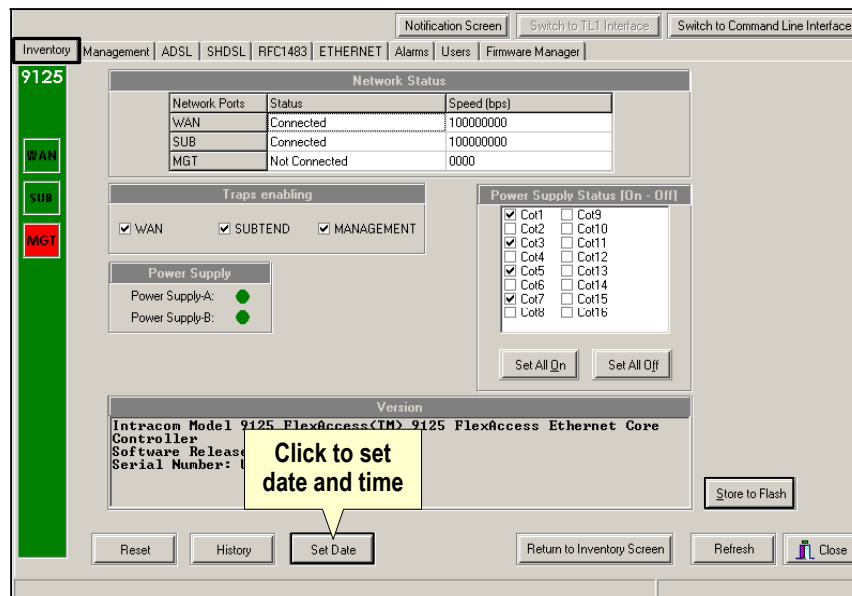

Figure 29 – Set date and time
*The **Inventory status** screen (Figure 29) appears.*